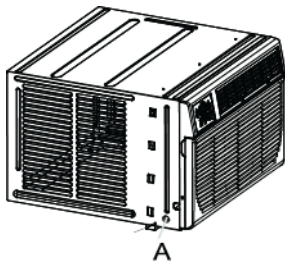

Figure 1
2. Remove 1 shipping screw from each side. (Figure 1)
- Vinyl Windows - Use a  $1/8$ " drill bit to drill two holes through the holes in the side curtains into the window frame. Screw in the  $\#10 \times 3/4$ " Flat Screw through the holes in the side curtains into the window sash. Refer to figure 1 above.